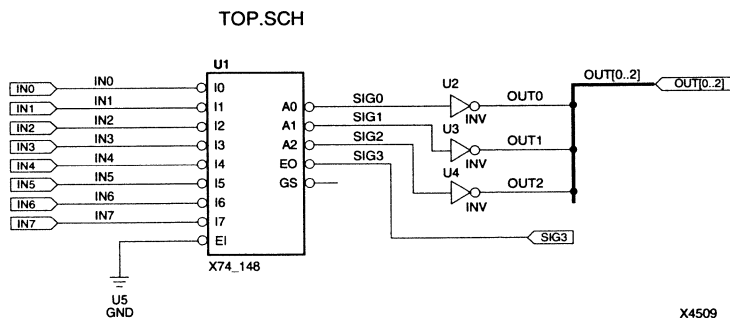
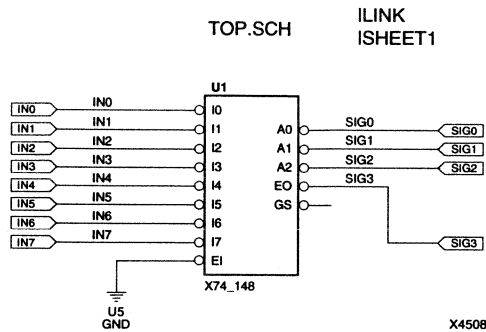
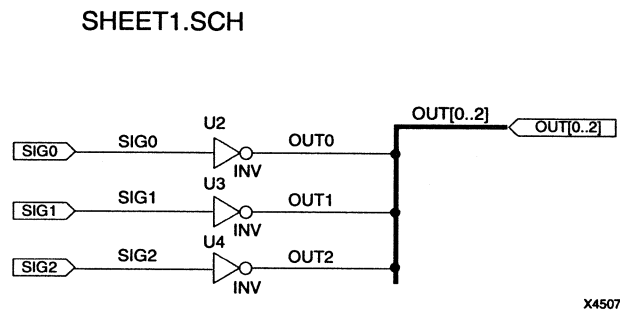

Figure 3-2 Top Schematic Design: Single Sheet Design
Figure 3-3 Linking Multiple Sheets Together: Primary Design
Figure 3-4 Linking Multiple Sheets Together: Second Design
Use the |LINK keyword and pipe character on the root level schematic to tell the schematic tools which worksheets are included in the flat design. In the following example, Figure 3-2, the TOP schematic is first entered as a single design. Then, in an equivalent implementation, the same circuit is entered as two separate sheets. The |LINK keyword is used to link the root worksheet (TOP.SCH) to SHEET1.SCH. (See Figure 3-3 and Figure 3-4.)
5. Press **Enter** and use the **Place** command to place the design name exactly under the | **LINK** keyword. Make sure the pipe characters are aligned as you place each sheet name under the keyword, as shown in Figure 3-3.